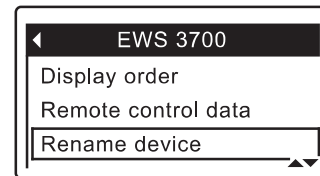

FIG. 73
3. Press the DOWN (▼) button to scroll through the menu options until **Rename device** is highlighted in a box (See Figure 73).
9. To select the next character, return to Step 7. When finished entering the device name, press the UP (▲) button to switch to the upper line, then press SELECT (○) to go back to the device menu (Figure 73).